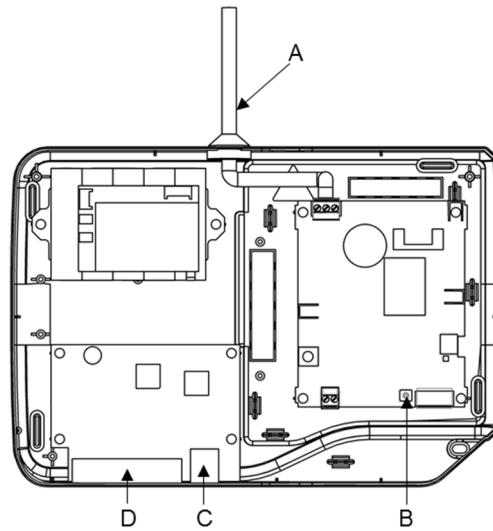

Figure 6.2: Interior view
- For prolonged storage or disconnection, cut the mains and press the stop button back-up function (see on Figure 6.2 in chapter 6.4: Product view ).